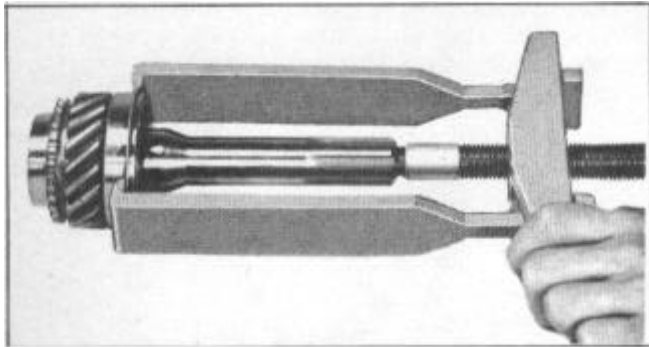

FIGURE 11
- b: Remove main drive gear bearing using Puller J-1134-H with cup type, adaptor on puller screw, Figure 11.